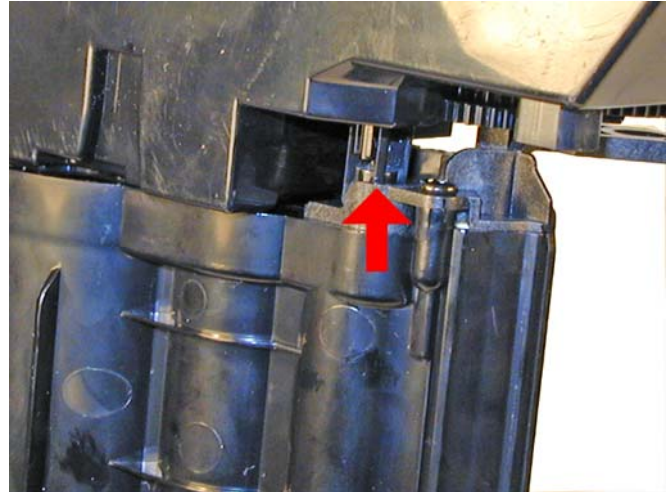

Figure 28
25) Make sure the waste chamber drive gear is meshed with the waste chamber gears. See **Figure 28**